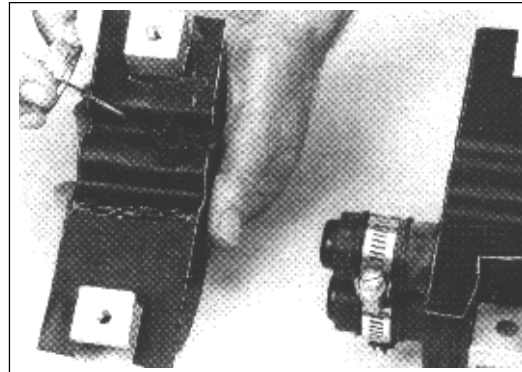

FIGURE 18 - BRUSH C-CEMENT OVER LOCK-TAPE SEALANT
8.02 Before installing prepared cables into the End Plate halves, apply 1/4" wide bead of C-Cement adjacent to the drilled hole. (Figure 18)